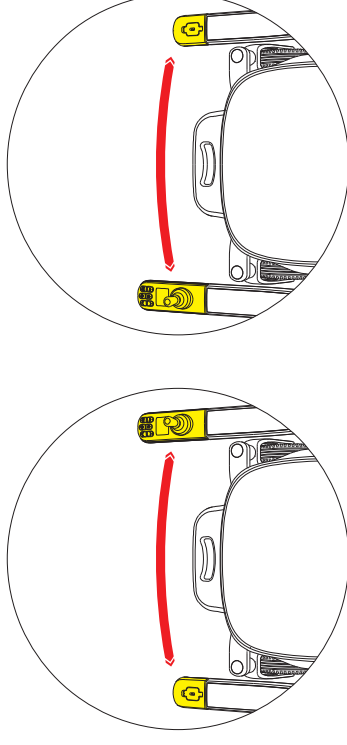

Figure 4.5.1
Step 3, interchange the left and right controllers, connect the harness, insert the left and right controllers into the armrest controller card slot, and use the hexagonal wrench to lock the hexagon socket screws. (As shown on Figure 4.5.1)